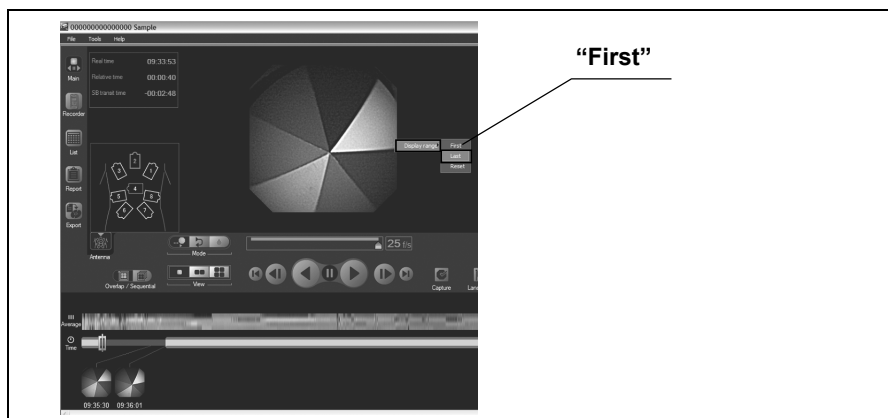

Figure 6.103
3. Right-click on the image and select “First” from “Display range” in the context menu (see Figure 6.103).